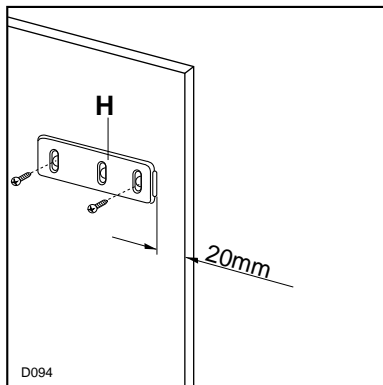

Fig. 8
Position the runners (H) at the top and bottom of the inside of the kitchen unit as shown in Fig. 8 and mark the position of the external holes. After preparing the holes, screw the runners to the kitchen unit door using 3.5x16 mm screws.